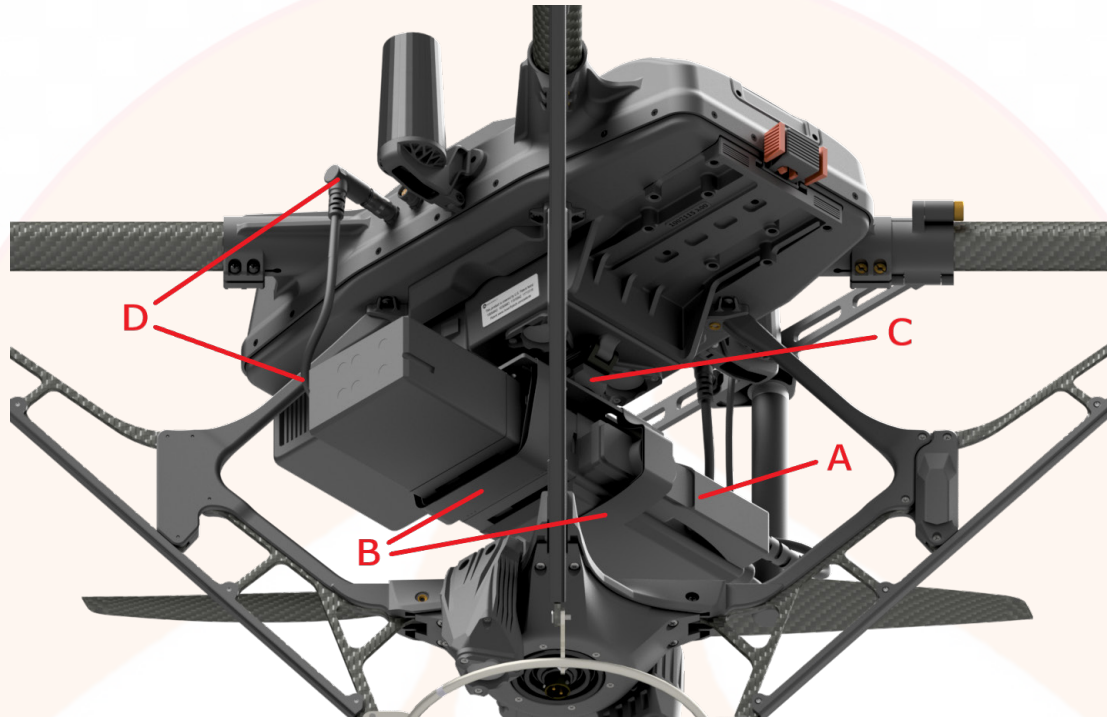

Figure 28: PRC-161 BATS-D Radio Installation 1
1. Connect the HL, PRC-161 Ethernet Cable Assembly to the side of the radio (**Figure 28, A**).
2. Insert the PRC-161 radio into the two straps on the Universal Radio Plate, centered and oriented as shown, and then tighten the straps to secure the radio in place (**Figure 28, B**).
3. Slide the plate and radio onto the aircraft Picatinny Rail following the 'Universal Radio Plate Installation' instructions above (**Figure 28, C**).
4. Connect the HL, PRC-161 Power Cable Assembly to the back of the radio and plug it into the aircraft **P1** connector (**Figure 28, D**).